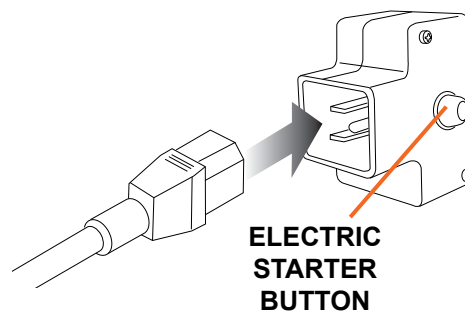

Figure 11
4. Push the electric starter button and hold for no more than 10 seconds at a time, until the engine runs (see Figure 11).